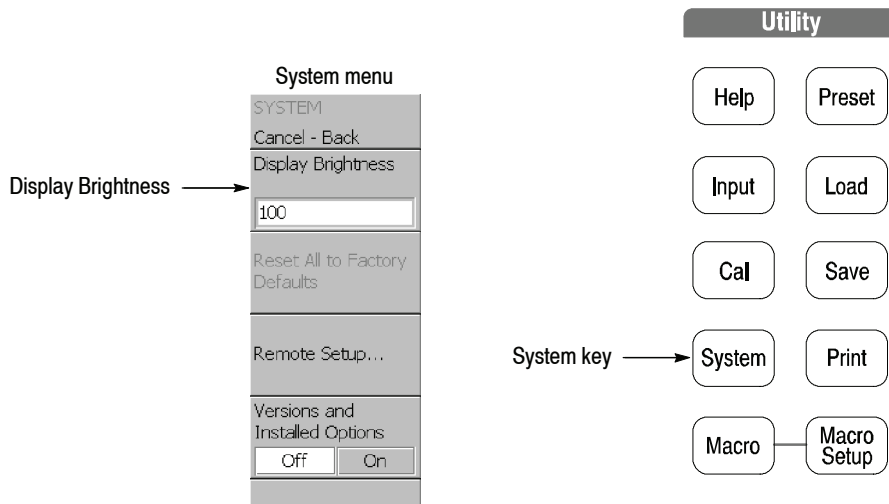

Figure 1-23: System menu
1. Press the **System** key on the front panel (see Figure 1-23).